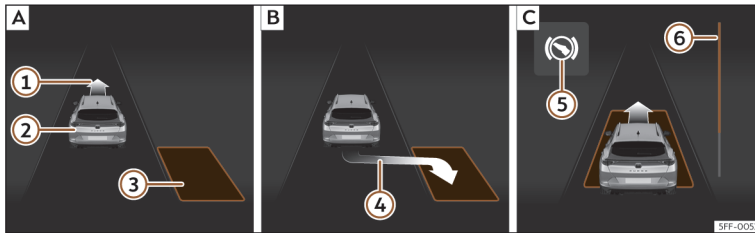
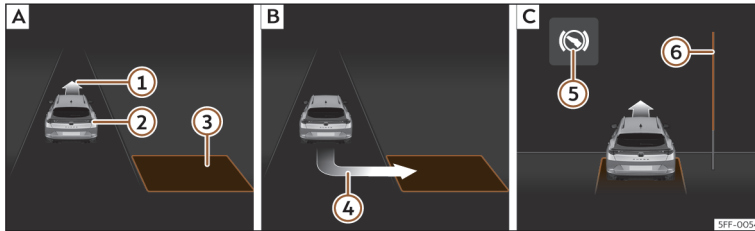

Fig. 151 On the instrument cluster display: parallel parking. **[A]**: Finding a parking space **[B]**: Parking position. **[C]**: Manoeuvring.
Fig. 152 On the instrument cluster display: angle parking. **[A]**: Finding a parking space **[B]**: Parking position. **[C]**: Manoeuvring.
- Look at the instrument cluster screen to see if the space has been detected as “appropriate” and if the correct position for parking has been reached >>> **Fig. 151 [B]** or >>> **Fig. 152 [B]**. The space is considered “appropriate” if the instrument cluster display shows the parking indication ④.
- Reverse until the continuous ParkPilot signal sounds; **OR:** reverse until the indication to move forward appears on the instrument panel display >>> Fig. 151 [C] or >>> Fig. 152 [C]; **OR:** reverse until the **Park Assist finished** message appears on the instrument cluster display. The progress bar [6] indicates the distance to cover.
- Move forward until the continuous ParkPilot signal sounds; **OR:** move forward until the reverse indication appears on the instrument panel display. The Park Assist system steers the vehicle forward and back until it centres it in the space >>> Fig. 151 [C] or >>> Fig. 152 [C].
The progress bar >>> Fig. 151 [6] and >>> Fig. 152 [6] on the instrument cluster display shows the relative distance to be covered as a symbol. The greater the distance, the fuller the progress bar. When driving forward, the content of the progress bar decreases upwards, and when reversing, it decreases downwards.